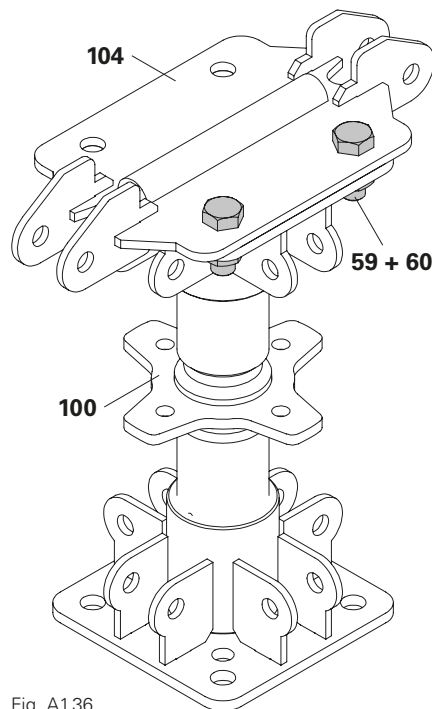

Fig. A1.36
- Mount the Head Spindle Centring ATS (**104**) using 2x bolt ISO 4017 M24 x 60-8.8 (**59**) and nut ISO 4032 M24-8 (**60**) on the same side on the flange of the Spindle ATS 360-550 (**100**). (Fig. A1.36).